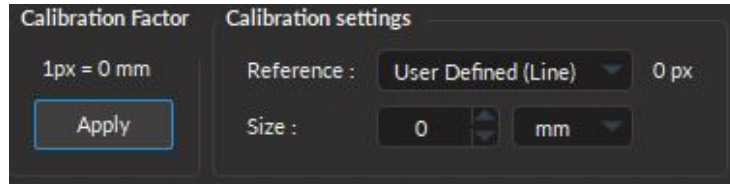

Figure 6.8: Camera Module - Calibration
4. The **Calibration Factor** (NOT available for *Web Camera* module) box ((Fig. 6.7) and (Fig. 6.8)) contains:
5. The **Calibration Settings** contains the parameters required to calculate the **Calibration Factor**. Once updated, the new **Calibration Factor** will be displayed above the **Apply** button (Fig. 6.8).